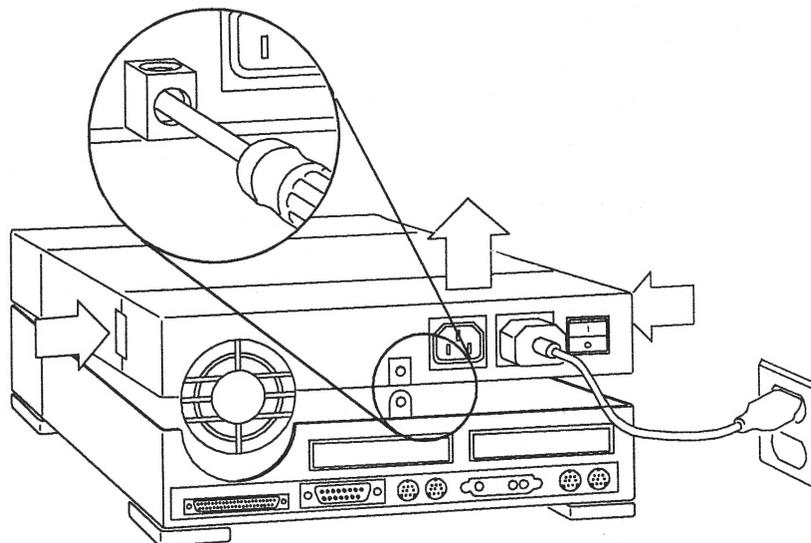

Figure 6-1 Opening the System Unit
- a. Remove the screw holding the lock block to the back panel (see Figure 6-1).